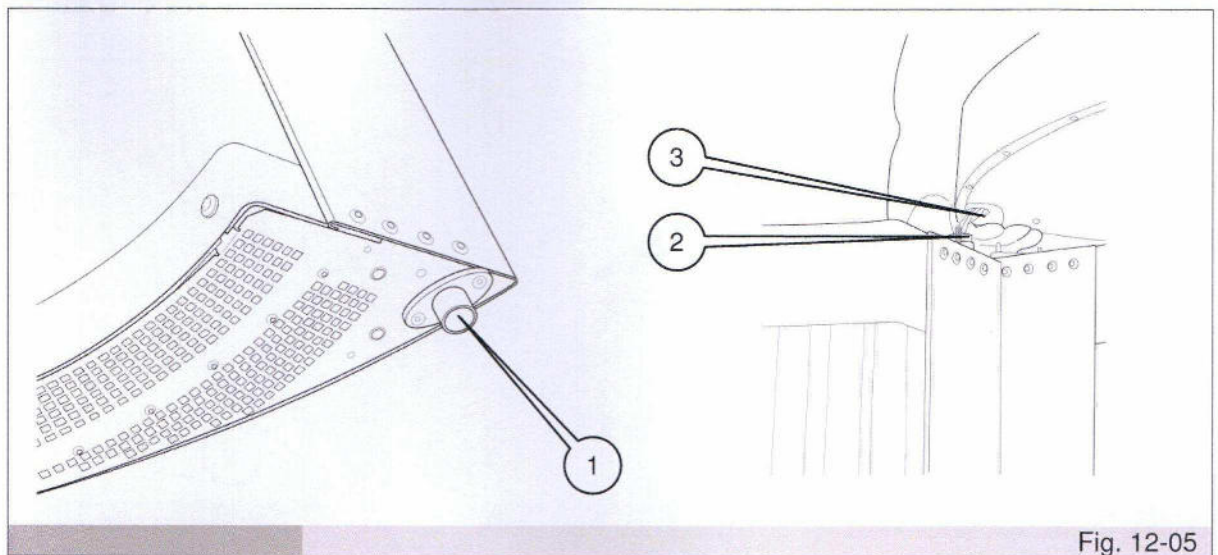

Fig. 12-05
- Install the door, initially inserting the lower pin (ref. 1 fig. 12-05) in its hole in the base and then, lifting the front part of the roof and passing the door's cables through the guide hole (ref. 3 fig. 12-05) in the roof, insert the door's upper pin (ref. 2 fig. 12-05) in the relative guide hole through which the cables were previously passed.